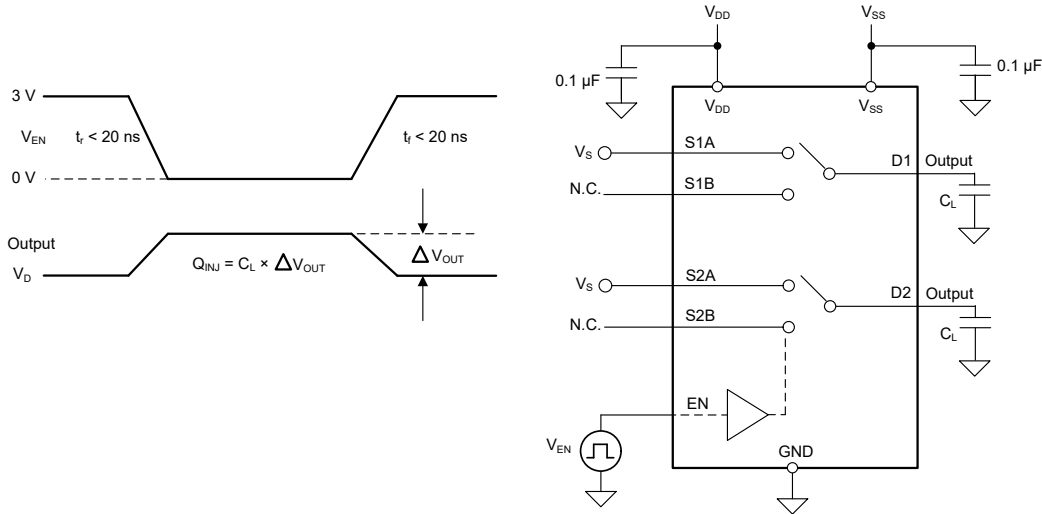

图 6-9. Charge-Injection Measurement Setup
The TMUX6236 has a transmission-gate topology. Any mismatch in capacitance between the NMOS and PMOS transistors results in a charge injected into the drain or source during the falling or rising edge of the gate signal. The amount of charge injected into the source or drain of the device is known as charge injection, and is denoted by the symbol Q_{INJ} . 图 6-9 shows the setup used to measure charge injection from source (Sx) to drain (D).